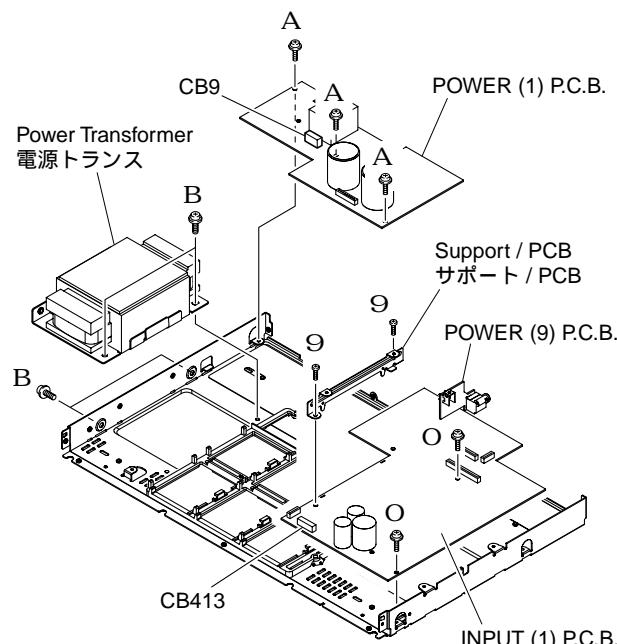

Fig. 4
- a. Remove 3 screws (6). (Fig. 4)
- Remove 1 screw (7) and 3 screws (8).
## 6. Removal of INPUT (1) and POWER (9) P.C.B.s (Fig. 4)
- Remove 2 screws (9) and then remove the Support/PCB.
- Remove 2 screws (O).
- Remove the INPUT (1) and POWER (9) P.C.B.s.
## 7. Removal of POWER (1) P.C.B. (Fig. 4)
- Remove 3 screws (A).
- Remove the POWER (1) P.C.B..
## 8. Removal of Power Transformer (Fig. 4)
## 6. INPUT (1) P.C.B., POWER (9) P.C.B.の外し方 (Fig. 4)
- INPUT (1) P.C.B., POWER (9) P.C.B.を外します。
## 7. POWER (1) P.C.B.の外し方 (Fig. 4)
- POWER (1) P.C.B.を外します。
## 8. 電源トランスの外し方 (Fig. 4)